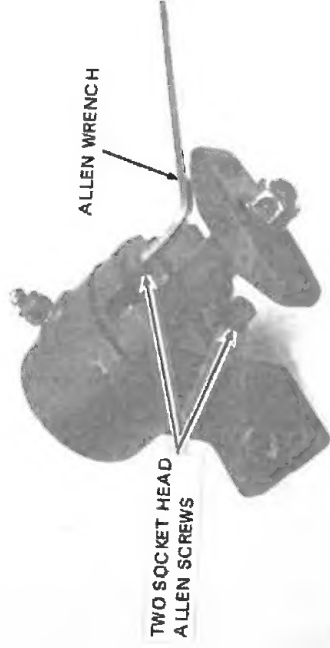

FIGURE 1
1. Remove cover with pawl and spring assembly from housing. See fig. 1.